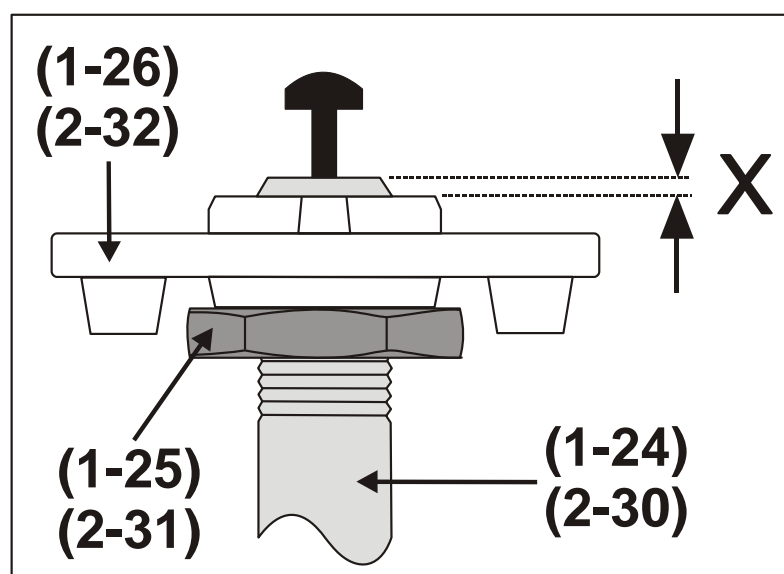

Figure 5-1 Gas spring support casting adjustment
- b) Screw the gas spring support casting (1-26)/(2-32) onto the threaded end of the gas spring piston, until the piston just protrudes above the casting (X = 0.5 - 1.5mm in Figure 5-1). Secure the casting by tightening the nut (1-25)/(2-31) underneath it.